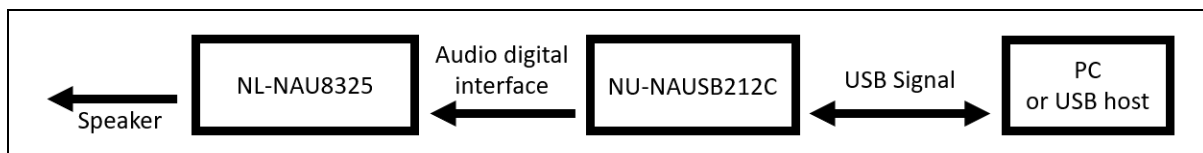

Figure 2-5 Signal Path of NU-NAUSB2I2C and NL-NAU8325
3. CN2 of NU-NAUSB2I2C uses USB Cable to connect to a PC under Windows system. (If possible, please do not connect to the PC through USB HUB). Figure 2-5 shows the audio signal path after the two boards are connected to each other.